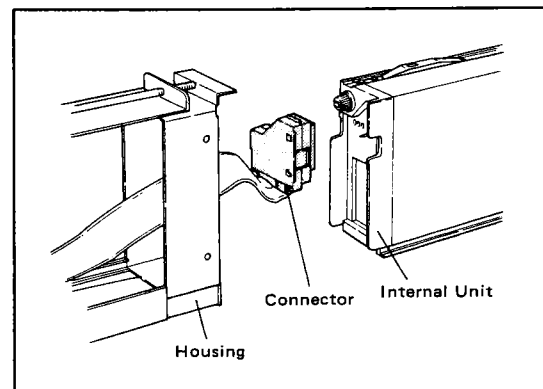

Figure 5-4. Housing Connector.
- (1) Remove the SRVD recorder grounding type power plug from the power outlet.
- (2) Pull the SRVD recorder internal unit out from the housing, and confirm that a fuse of the correct rating is installed in the fuse holder located on the rear of the internal unit (See Figure 5-4 for withdrawing the internal unit).
- (4) Confirm that the connector connecting the housing and the internal unit is installed correctly (See Figure 5-4).
- (5) Confirm that the input signal line and, for recorders with the alarm function, the alarm output line to the terminal board (located on the rear of the housing) is properly connected (see paragraph 3-2 for the wiring).
- (6) Confirm that the proper scale plate and nameplate are attached to the front of the instrument.
- (7) Load chart paper (See 5-4-1 for chart loading).
- (8) Install the pen assembly (See 5-4-2 for installation instructions). The pen assembly is stored in the accessory box.